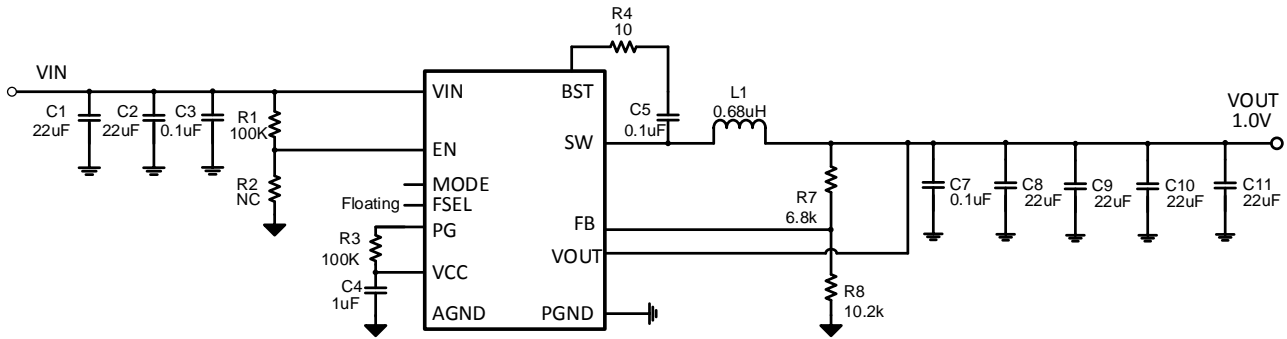

Figure 10. SCT2280 Design Example, 1V Output
The SCT2280 features external programmable output voltage by using a resistor divider network R1 and R2 as shown in the typical application circuit Figure10. Use equation (12) to calculate the resistor divider values.